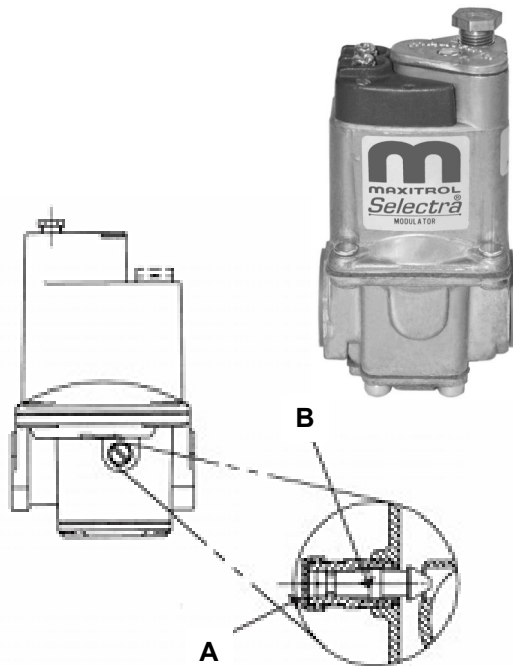

Figure 11– Modulating Valve (model may vary from picture)
8. On the modulating valve (Figure 11), remove bypass cap (A) and turn screw (B) using small screwdriver to desired low fire setting (See table 5). Note: Clockwise screw rotation reduces flow rate. Do not over tighten.
10. On the modulating valve (Figure 11), remove bypass cap (A) and turn screw (B) using a small screwdriver to desired low fire setting. (See Table 5) Note: Clockwise screw rotation reduces flow rate. Do not over tighten.